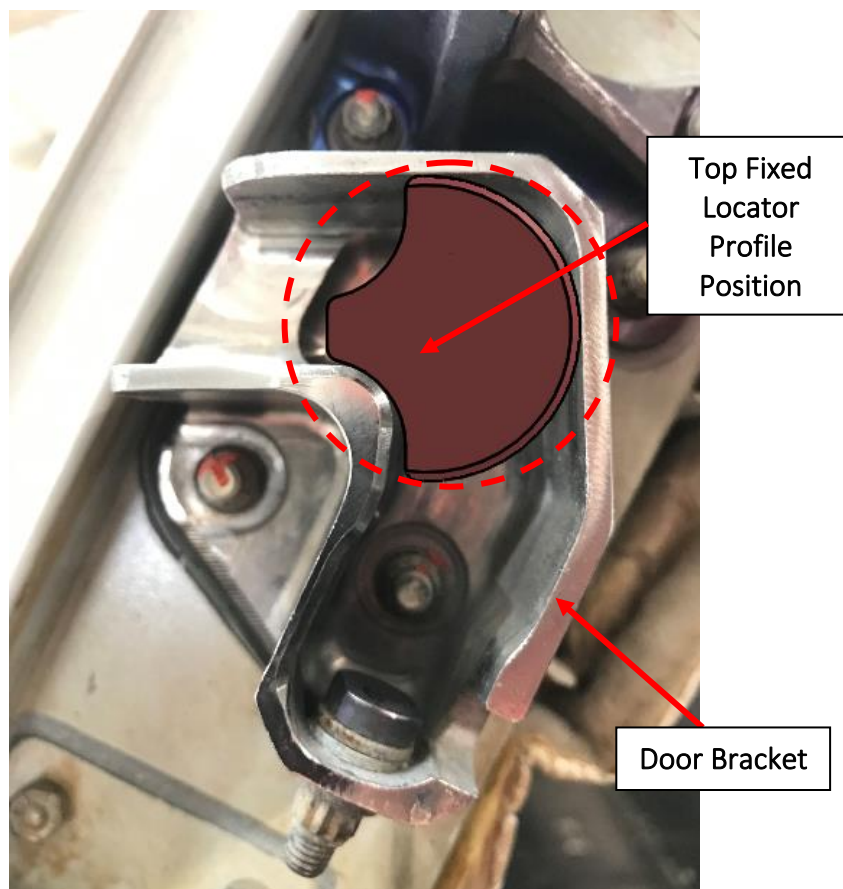

Figure 7 Top Door bracket.
- 4.1.5 The top fixed locator fits into the door bracket area highlighted in figure 7.